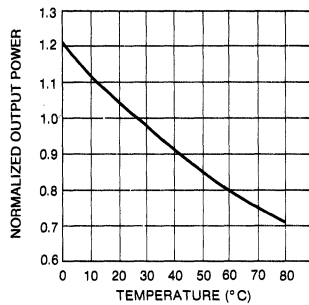

Fig. 2. Normalized Output Power vs. Temperature (Note 3)
3. The curves in Fig. 2 are normalized to the power output at  $25^\circ\text{C}$  to indicate the relative efficiency over the operating temperature range.